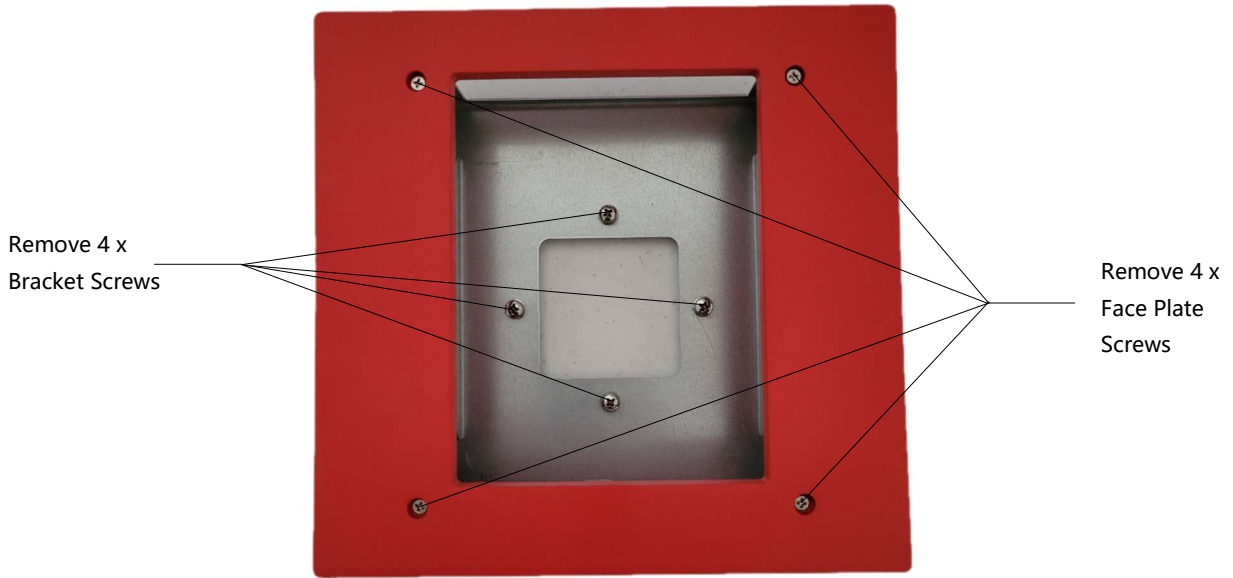

Figure 26: APV3-BDA - Flush Mount Kit Face Plate and Bracket Screw Removal
Follow the below instructions, Figures 26 through 29, to flush mount the APV3-BDA:
- Remove the (4) Philips head screws holding the faceplate to the mounting bracket. Do not discard screws as these will be used to reinstall the face plate. Remove the face plate.
- Remove the (4) screws that are attached to the mounting bracket from the factory. These screws will be used in the next step to attach the APV3-BDA standard mounting bracket to the flush mount bracket. See figure 26 below.